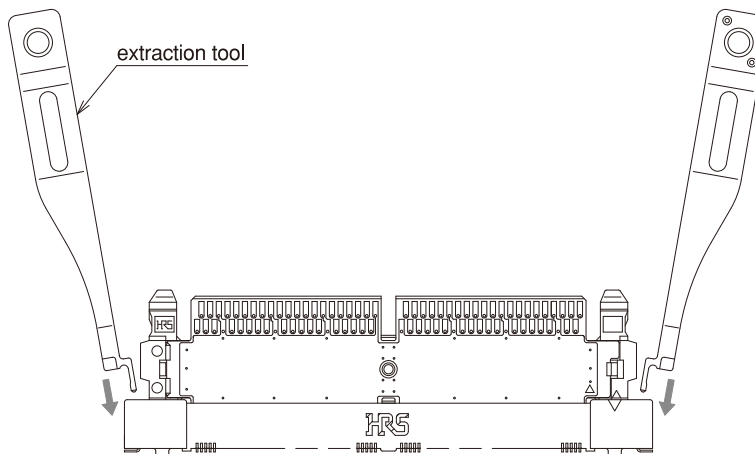

Fig. 1
Step 1 ● Fully insert the tools into each end of the receptacle assembly (Fig. 1) assuring that they will be over the hold areas of the Transmission Module frame. Ref. Fig. 2